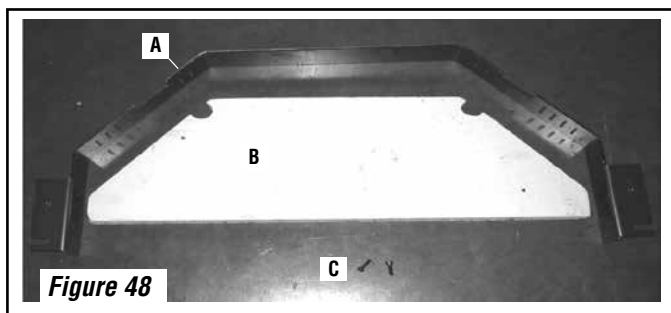
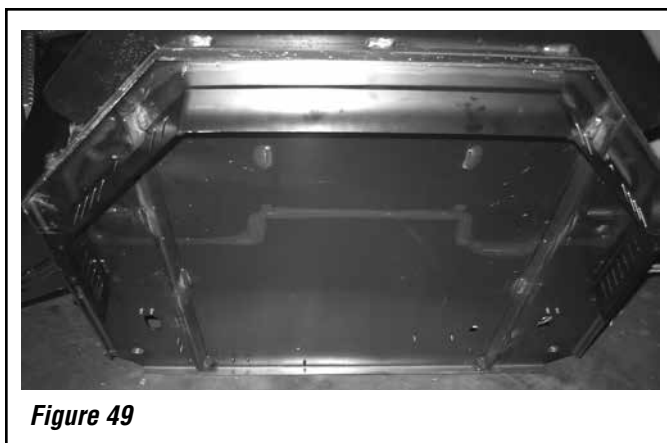

Figure 48
Figure 49
(Refer to Figure 48)
1. **Install the 2" lower trim piece** - Fasten the 2" trim piece underneath the base of the front of the insert as follows; use a 5/32" allen wrench or T-handle wrench to secure the 2 screws (see C in Figure 48) provided, one at the left side and one at the right side base of the insert. **NOTE:** This process will be simplified by very cautiously tilting the insert back (see Figure 49).